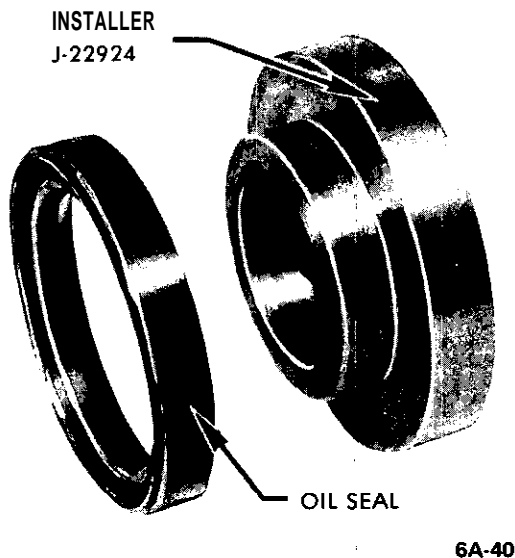

Figure 6A-40 Installing Timing Cover Oil Seal on Protector
4. To install new timing case oil seal, drive out oil seal from the rear using a drift. Coat circumference of oil seal sparingly with suitable sealer and press seal in, using tool J-22924. Take care not to damage timing case. See Figure 6A-40.